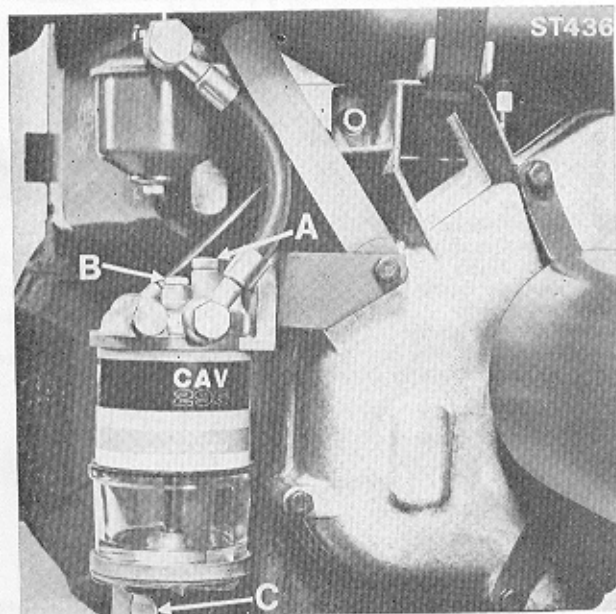

Fig. 119. Marine Fuel Tanks
**Marine Fuel Tanks (Fig. 119)**